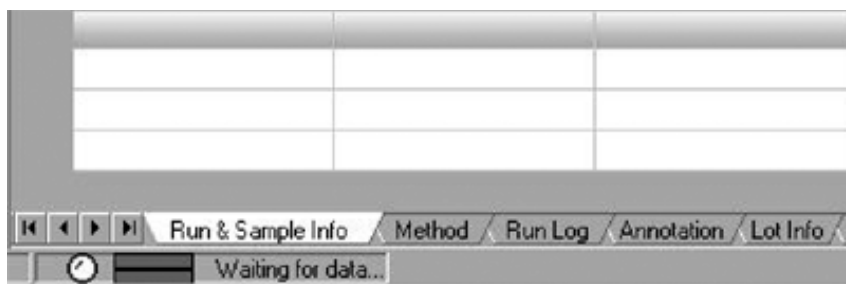

Fig. 9.2. “Waiting for data” message on the bottom of the Profinia software screen.
2. Open Profinia software on the computer. A connection between the software and the instrument will be indicated by a “Waiting for data” message at the bottom of the Profinia software screen on your computer (Figure 9.2). This message indicates that a run can be started.